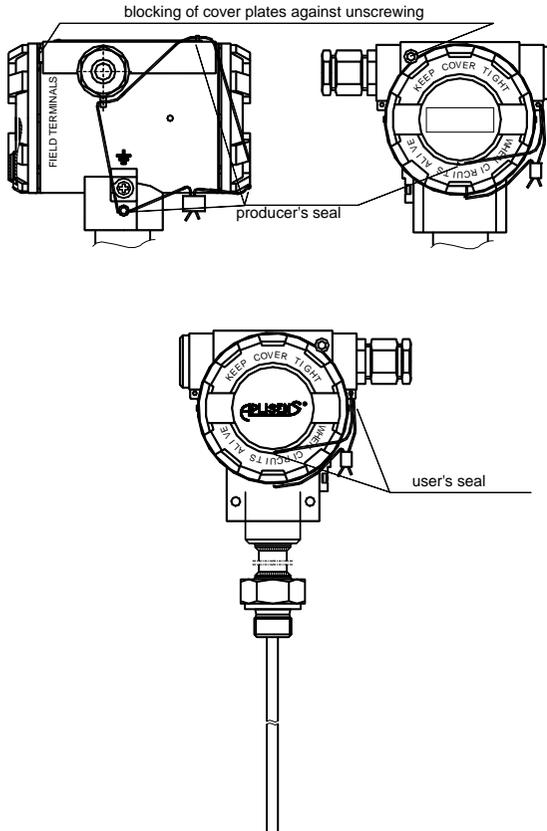

Fig 1c. APT-2000ALW in MID application. Sealed up transmitter.
8.2. Blocking by the gas volume conversion manufacturer. Turn on the "spec MID locking" with local buttons using local menu of transmitter (see point 9.2.4 User's Manual, MID_WP – "ON"). Put the seals of the gas volume conversion producer on the electrical connection cover, screw of a sensor head and a label if it is metal made. Places of seals application is shown by the arrows at Fig.1c. Seal should be made in accordance with the documentation of gas volume conversions in the place/country their use.